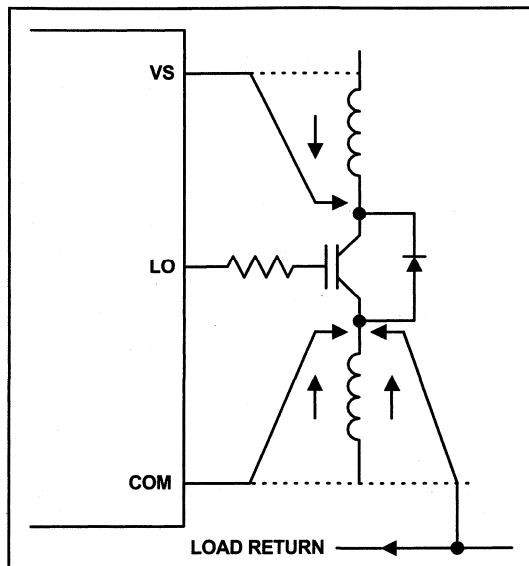

Figure 6. Bypass Parasitics
- 2a. Connect  $V_s$  and COM as shown in figure 6.